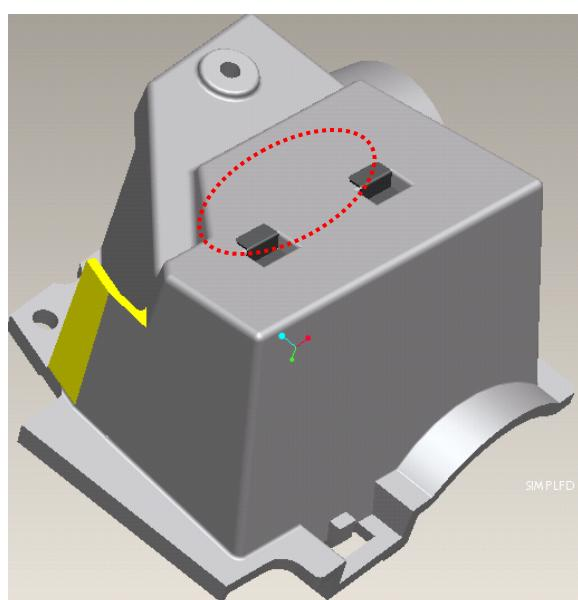

Fig. 6-4
- VI. To check and make sure " CLIP of CM" hooks the HSG ILL very Well (Fig. 6-4, 6-6,6-10)